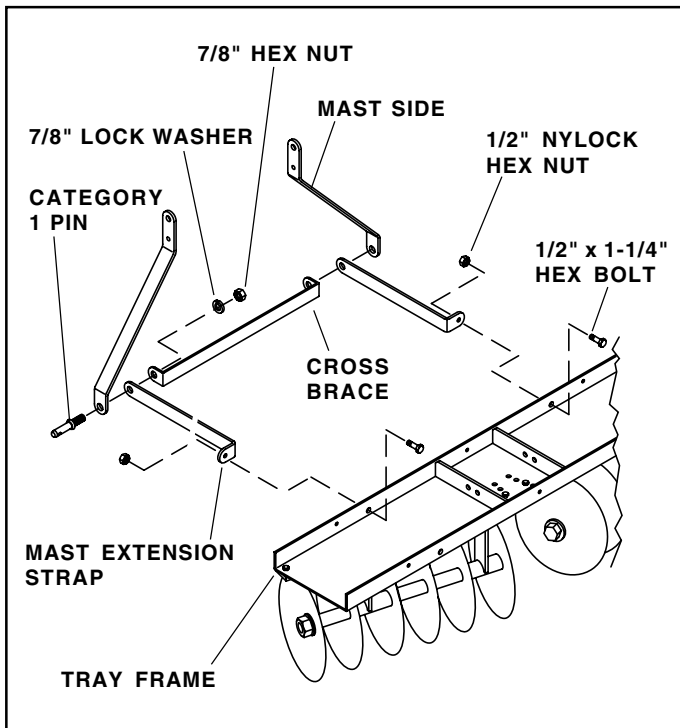

FIGURE 3
- Attach two mast extension straps to the front of the frame tray so that the bent end of each strap points outward. Use two 1/2" x 1-1/4" hex bolts and two 1/2" Nylock hex nuts. **Do not tighten yet.** See figure 3.
- At the other end of the mast extension straps, attach the cross brace to the inside and two mast sides to the outside of the straps. Use the two category 1 pins, two 7/8" lock washers, and two 7/8" hex nuts. **Do not tighten yet.** See figure 3.